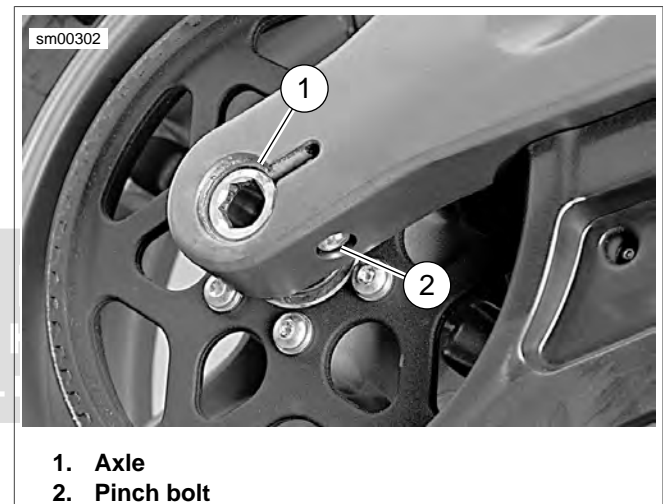

Figure 5-43. Rear Axle
5. See Figure 5-43. Tighten rear axle (1) to 23-27 ft-lbs (31.2-36.6 Nm), back off two full turns and then retighten to 48-52 ft-lbs (65-70.5 Nm).
6. Tighten rear axle pinch fastener (2) to 40-45 ft-lbs (54-61 Nm).
- See Figure 5-43. Loosen rear axle pinch bolt (2).
- See Figure 5-43. Install and tighten rear axle (1) to 23-27 ft-lbs (31.2-36.6 Nm), back off two full turns and then retighten to 48-52 ft-lbs (65-70.5 Nm). See 2.6 REAR WHEEL.